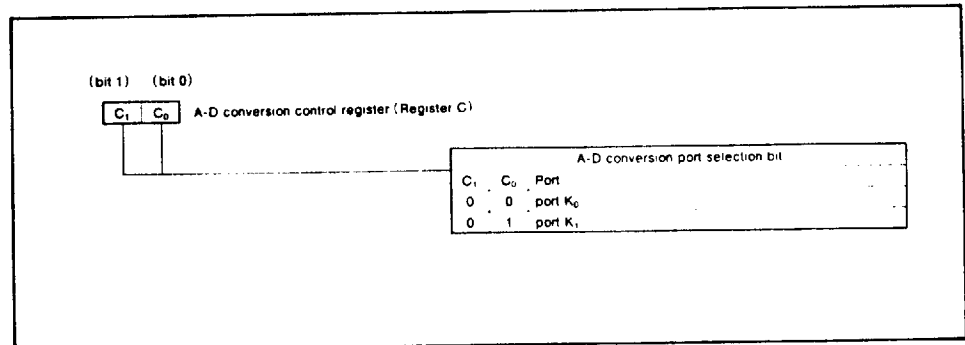

Fig.7 Structure of A-D conversion control register (register C)
- (1) A-D control register (C)
The A-D control register (C) is a 2-bit register. One of the two analog inputs is selected according to the combination of bits 0 and 1 of this register. Figure 7 shows the correspondence between the selected analog input pin and bit 0 or 1.
- (2) The A-D conversion start instruction (ADST)